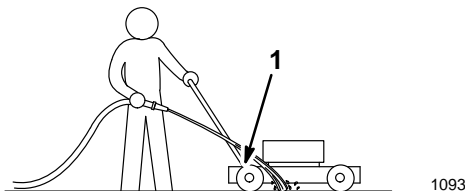

Figure 24
3. Hold the running garden hose at handle level and direct the water to flow on the ground just in front of the right rear tire (Fig. 24).